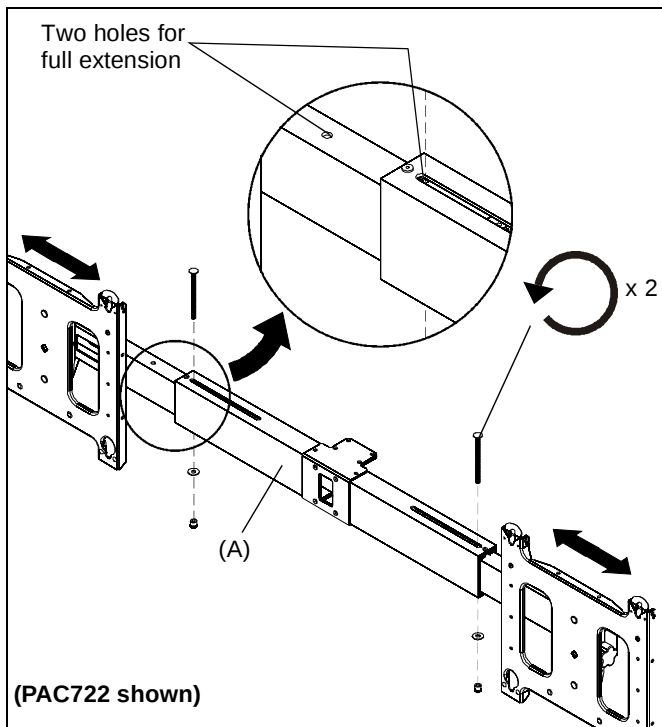

Figure 5
6. Adjust extension assembly (A), as necessary, by removing the carriage bolt, allen nut and washer on each end of the extension assembly, so that distance between the center of the faceplate and center of the extension assembly matches dimension measured in Step 5. (See Figure 5)